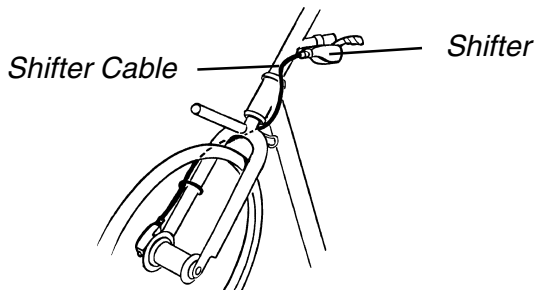

FIGURE 4 - EXCELERATOR/EXCELERATOR XLT SEVEN (7) SPEED SHIFTER CABLE INSTALLATION
EXCELERATOR/EXCELERATOR XLT - SEVEN (7) SPEED SHIFTER CABLE INSTALLATION (FIGURE 4)